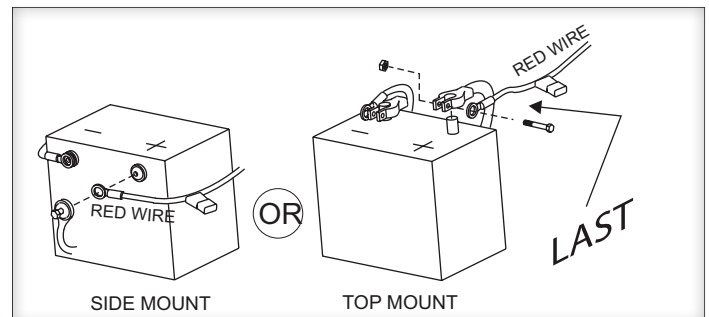

Figure 18-3
**8. LAST...attach red wire to the positive terminal on the battery.** [Figure 18-3]